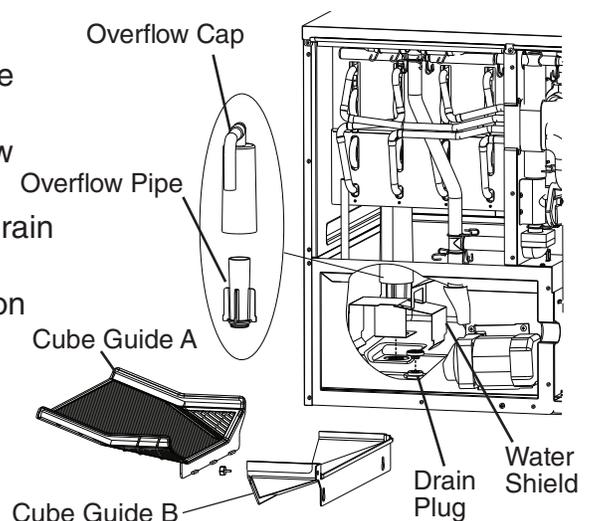

Fig. 16
- 4) Remove the front insulation panel, then remove cube guide B and cube guide A. See Fig. 16. Remove the overflow cap, overflow pipe, water shield, and drain plug. After the water tank has drained, replace the drain plug, water shield, overflow pipe, overflow cap, cube guide A, cube guide B, and front insulation panel.
- 3) Remove the insulation panel. Remove cube guide B, then remove cube guide A. Remove the overflow cap, overflow pipe, and water shield. See Fig. 16.